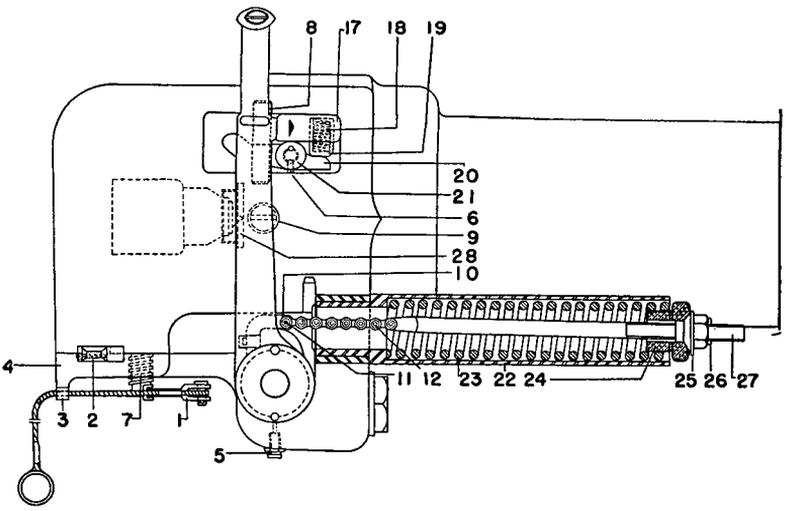
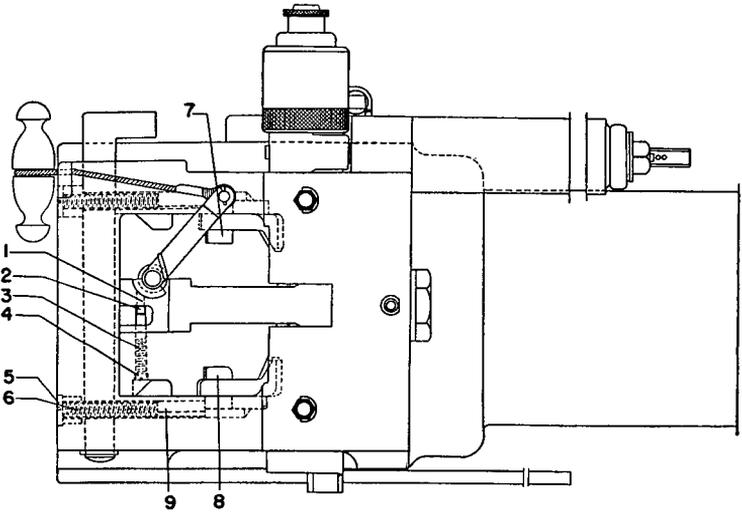
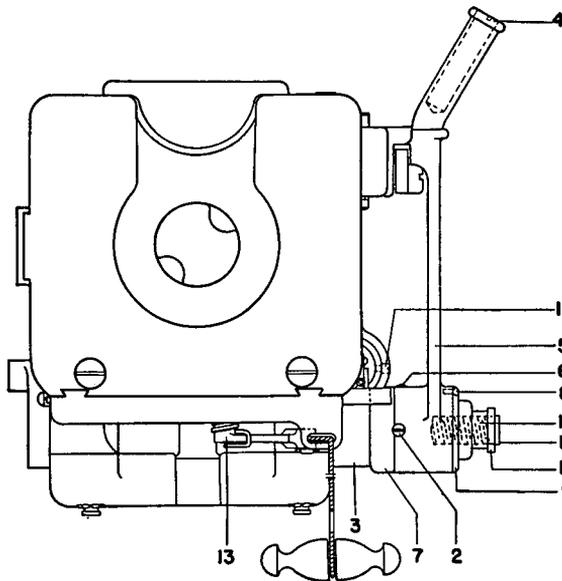
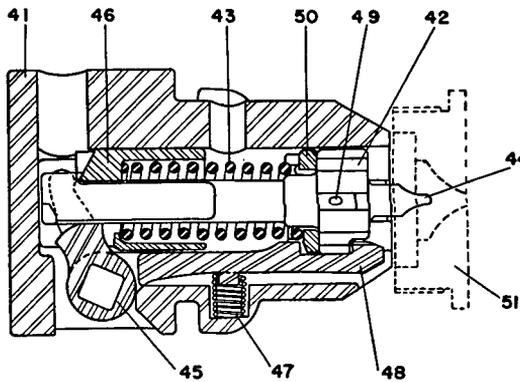

FIGURE 6.—Breech mechanism, 3-inch antiaircraft gun, M3, right side elevation.
FIGURE 7.—Breech mechanism, 3-inch antiaircraft gun, M3, bottom elevation.
FIGURE 8.—Breech mechanism, 3-inch antiaircraft gun, M3, rear elevation.
FIGURE 9.—Firing mechanism, 3-inch antiaircraft gun, M3, horizontal cross section.
■ 40. TO REMOVE AND DISASSEMBLE BREECHBLOCK.—*a.* Remove one of the cap screws from the breech lamp bracket, loosen the other cap crew, and swing the lamp assembly clear of the breech recess. Unscrew plugs (5) (fig. 7) and remove extractor springs and plungers (6) and (9). Screw an eyebolt in the top of the breechblock for use in lifting the block. Open the breech and insert a pin or punch in the opening in the spring piston rod (27) (fig. 6) at the rear face of the closing spring cylinder (22), thereby releasing the tension of the spring on the breechblock. (See note
below.) Screw in the clutch (11) (fig. 8), and close the breech. Remove the cotter pin which retains the chain terminal and unhook the chain from the operating shaft.
b. Draw the trigger shaft detent (1) (fig. 7) to the left by the handle (2) and draw out the trigger shaft (13) (fig. 8). Remove the firing case (41) (fig. 9) by turning until the locating lugs are disengaged. Remove the split pin from the lock plate key (2) (fig. 6) and drive out the key. Remove the lock plate (4).
c. Rotate the operating shaft (3) (fig. 8) as in opening the breech. When the arm of the operating shaft turns out of the breechblock, draw the shaft to the rear out of the breech ring. It may be necessary to raise or lower the breechblock slightly while removing the shaft. Lower the breechblock sufficiently to remove the extractors.
d. Raise and remove the breechblock from the breech ring. Remove the detent spring (3) (fig. 7) by first removing screw (4) holding the spring. The detent (1) may then be removed.
e. The bushing (28) (fig. 6), which is screwed very tightly in the front face of the breechblock, is assembled during manufacture and will not be removed by the using service personnel.
NOTE.—If it is desired to disassemble the closing spring cylinder mechanism, do not insert pin in the spring piston rod. With breech closed, unscrew piston rod nut (25) (fig. 6) and withdraw spring piston (24). The closing spring may then be removed from the front and the spring piston rod from the rear.
■ 41. TO DISASSEMBLE FIRING CASE.—a. With the firing case assembly withdrawn from the breechblock as explained in paragraph 40, insert a screw driver in small hole in the firing case and push the trigger fork (45) (fig. 9) from the case.
b. Remove the firing pin holder assembly (42) by pressing the sear (48) against the spring (47) with a finger at the front of the case, and by pushing the entire firing pin holder assembly from the rear with the fingers of the other hand.
c. Remove the sear (48) and the sear spring (47).
■ 42. TO DISASSEMBLE FIRING PIN HOLDER ASSEMBLY.—a. Separate the holder (42) (fig. 9) from the sleeve (46) by pressing inward on the end of the firing pin holder, thus dis-
c. Remove spring stop (50) and the cotter pin (49) from the holder (42), and unscrew the firing pin (44) from the firing pin holder (42).
■ 43. TO DISASSEMBLE OPERATING HANDLE AND OPERATING SHAFT.—Unscrew the clutch lock (10) (fig. 8) to disengage the clutch from the shaft, and remove retaining ring lock screw (2). Unscrew the retaining ring (7) from the operating shaft (3) and remove the operating handle assembly. Unscrew retaining ring from the operating handle hub. Remove the clutch lock bearing lock screw (8) and unscrew the bearing from the handle hub. The method of disassembling the remaining parts needs no explanation.
■ 44. TO ASSEMBLE FIRING PIN HOLDER ASSEMBLY.—a. Insert the firing pin (44) (fig. 9) into the firing pin holder (42) until it fits tightly against the shoulder. Insert the cotter pin (49) through the holder and spread the ends to clear the firing case bore. Assemble spring stop (50) and firing spring (43) on the firing pin holder (42). Place the firing pin holder sleeve (46) over the firing spring and firing pin holder, and force it against the spring until the beveled surface on the inner part of the sleeve and the irregularly formed end of the firing pin holder hook together, retaining the parts.
■ 45. TO ASSEMBLE FIRING CASE.—a. Turn the spring stop (50) (fig. 9) on the firing pin holder (42) until the flat edges of the fork are in a plane parallel to that of the flat surface
b. Insert the sear spring (47) into its seat inside the firing case (41). Insert the sear (48) into the case, placing the stud on the bottom of the sear into the sear spring (47). With a finger hold the rear end of the sear (48) up, and with the other hand insert the firing pin holder assembly about halfway into the case. Then press the rear end of the sear down and push the firing pin holder assembly fully into the case.
c. Insert the trigger fork (45) into the opening in the side of the case, with the rounded projections on the fork ends toward the front of the case, in which position the ends rest against the rear face of the firing pin holder sleeve (46). Push the trigger fork in as far as it will go, slapping it with the palm of the hand if necessary.
■ 46. TO ASSEMBLE BREECHBLOCK.—*a.* Assemble the trigger shaft detent (1) (fig. 7) into the detent hole in the lower left-hand side of the block. As the detent passes into the slot in the bottom of the block, slip the detent handle (2) over the small diameter of the detent up to the shoulder. Place the detent spring (3) in the hole and insert screw (4).
■ 47. TO ASSEMBLE OPERATING HANDLE.—*a.* The grip position is made hollow to reduce its weight, the hole in the end being closed by screwing in the handle plug (4) (fig. 8). The oil cup (6) is pressed into the hub of the handle. These parts are assembled during manufacture and are not intended to be removed.
b. Screw the clutch lock (10) (fig. 8) through the clutch spring (12) into the clutch (11), and insert them into the handle, locating the key and keyway together. Now screw the bearing fully into the handle. Locate the nearest hole
■ 48. TO ASSEMBLE OPERATING SHAFT.—Slide the operating handle assembly on the operating shaft, pushing it on until the projections on the shaft pass through the openings in the retaining ring (7). Retain the handle on the shaft by screwing the retaining ring fully against the shoulder, and insert the retaining ring lock screw (2). The lock screw should seat in the depressions in the ring and handle. Screw the clutch lock fully to the right to engage the clutch with the shaft.
*b.* Place the extractors (7) and (8) (fig. 7) in position in the breech recess, and press upward from the bottom so that they lie flat against the face of the breech.
*f.* With the breech open, insert the extractor plungers (9) (fig. 7) in the holes in the breech face, small end of the plunger to the rear, followed by the extractor plunger springs. Screw plugs (5) in position.
*g.* Attach the chain terminal to the operating shaft. (In case the closing spring assembly has been disassembled, place the closing springs (23) (fig. 6) in the closing spring cylinder (22). Insert the spring piston rod (27) through the spring and spring cylinder from the rear end and attach the chain terminal to the operating shaft. Place the spring piston (24) on the rod and screw the piston rod nut (25) on the rod until the end protrudes through the nut about three-fourths of an inch.)
*h.* Close the breech and insert the trigger shaft (1) (fig. 6), first placing the spring (7) in position on the trigger shaft. Press the trigger shaft detent handle to the left to allow the trigger shaft to enter, and then allow the detent (1) (fig. 7) to move back into the annular groove in the shaft.
■ 50. **TO ASSEMBLE LATCH PLATE** (fig. 6).—Place the latch spring (18) into the spring cup (19), and hold the parts in position in latch plate (17). At the same time assemble the latch (20) in the plate by forcing the boss on the latch into its seat in the latch plate, holding it in position until the latch bolt (21) can be entered several threads. Screw the latch bolt (21) home and insert the latch bolt set screw (6). The disassembly of this mechanism is the reverse of the above procedure.